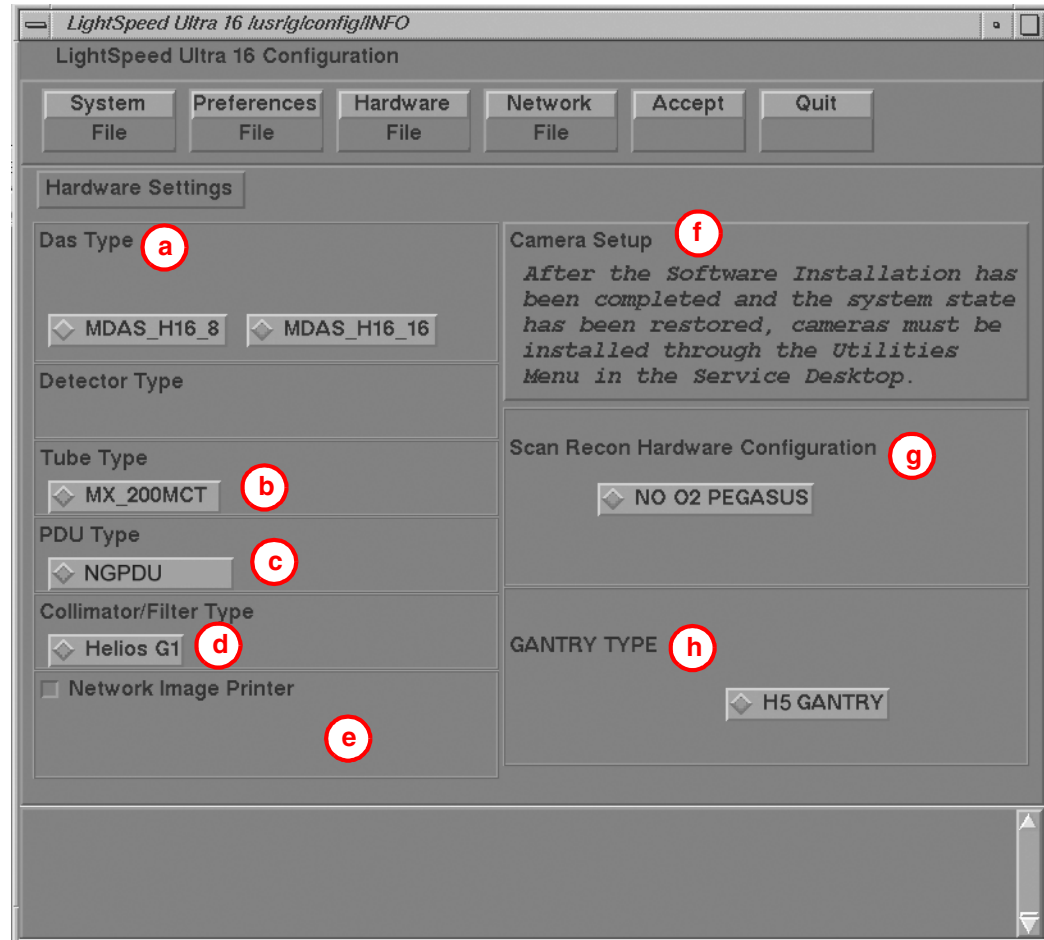

Figure 2-4 Hardware Settings Screen (example only - actual screen may vary)
- 8.) Select the **HARDWARE** button to display the Hardware Settings Screen (Figure 2-4).